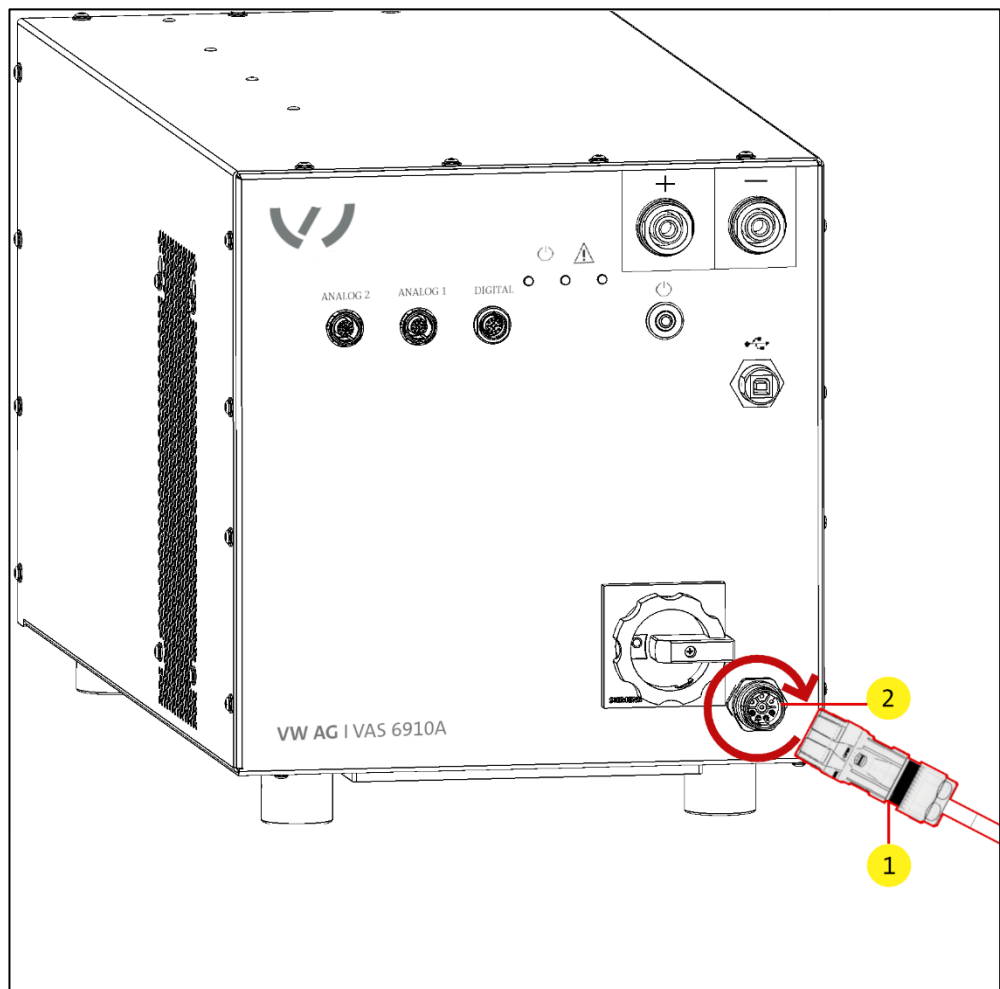

Figure 2: Plugging in the power cable
1. Connect the power cable VAS 622 021 (Figure 2/position 1) to the socket (Figure 2/position 2).
2. Turn the power cable plug 90° to lock it in place (see Figure 2).